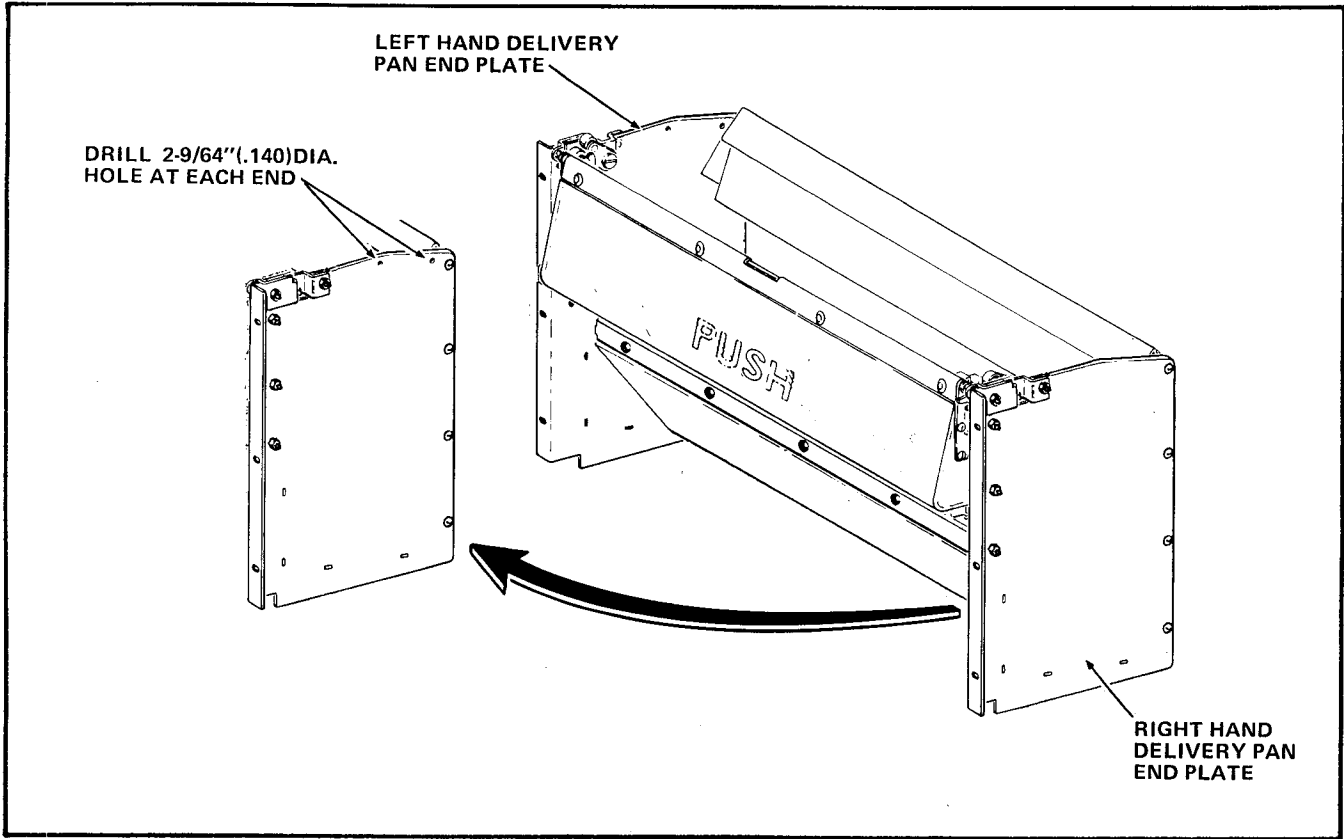

FIGURE 2
1. Using the Left Delivery Pan Guard Part Number 141-2077, included in the Kit, as a template locate and mark two holes in Left Hand Delivery Pan End Plate. See Figure 2.
2. Using the Right Delivery Pan Guard, Part Number 141-2078 included in the Kit, repeat Step B-1 for the Right Delivery Pan End Plate. See Figure 2.
3. Using a Electric or Manual Hand Drill with a Drill Bit, Drill two .140 Diameter Holes in the Left and Right Delivery Pan End Plates as marked in Steps B-1 and B-2. See Figure 2.